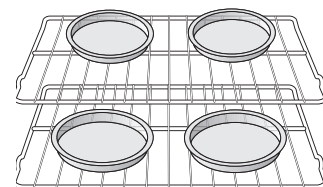

Figure 13: Pan spacing
- When using two oven racks, position cookware as shown in Figure 13. Allow at least 2-4 inches (5-10 cm) of space between cookware for proper air circulation.